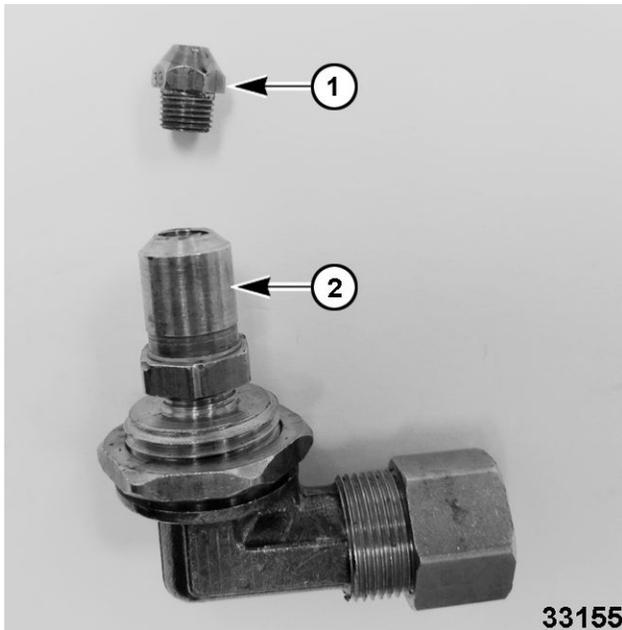

Fig. 35
2. Remove the orifice spud (1, Fig. 35) from hood (2, Fig. 35).